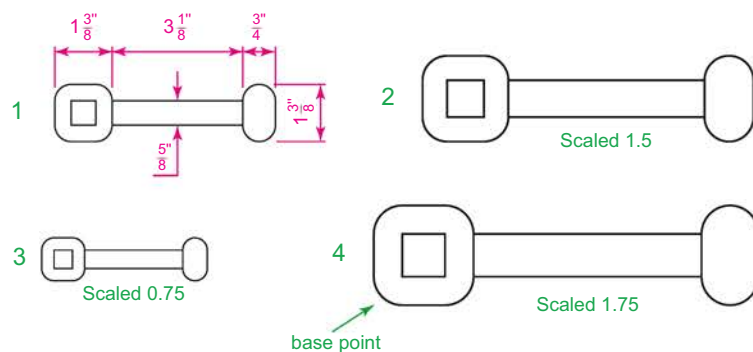

Fig. 6.26 Examples – Scale
EXAMPLES – SCALE (FIG. 6.26)
- Using the **Rectangle** and **Polyline** tools, construct drawing 1 of Fig. 6.26. The **Rectangle** fillets are R10. The line width of all parts is 1. Copy the drawing three times to give drawings 2, 3 and 4.
The results are shown in Fig. 6.26.